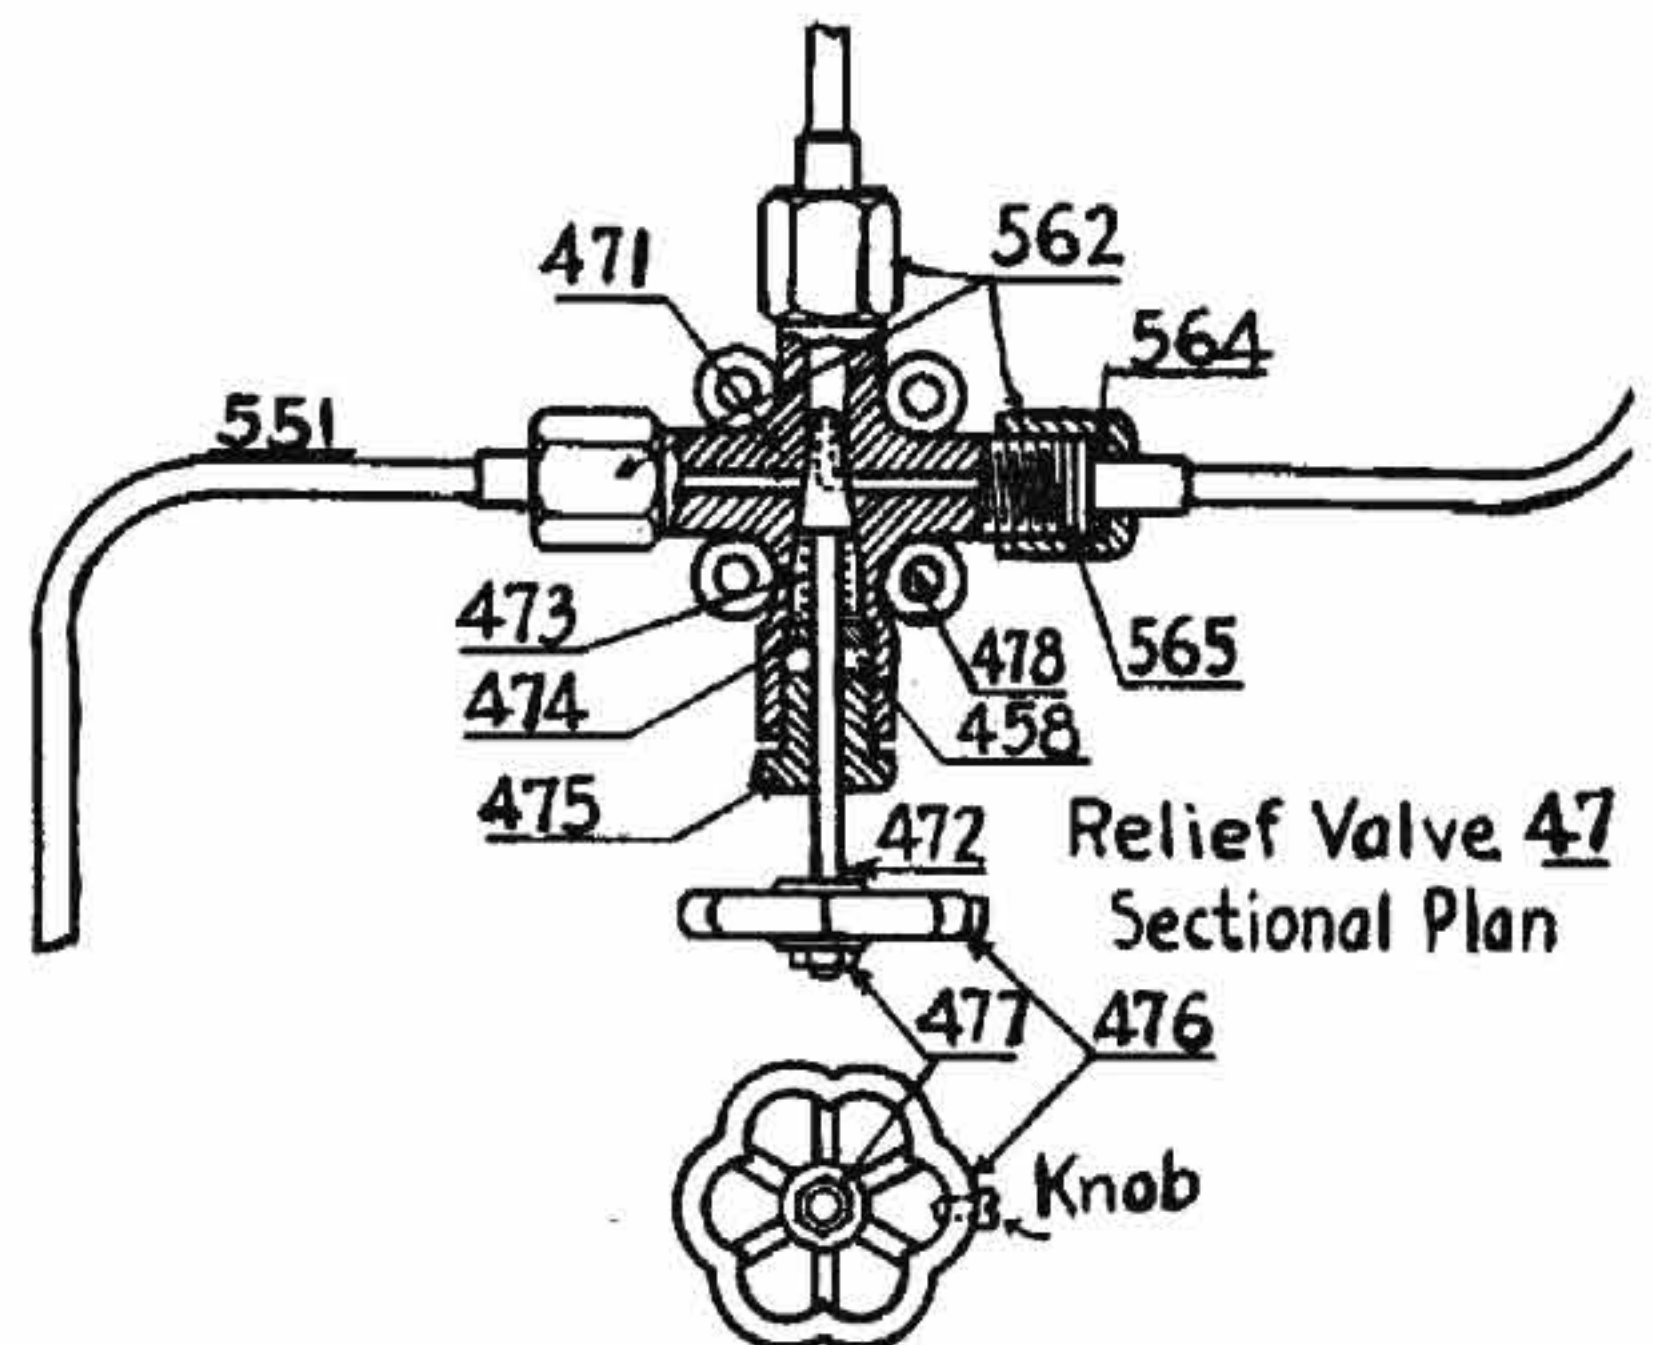

FIGURE 22-8.—Relief valve for type B lamp.
- (1) Be sure all the needle valves are closed.
- (2) Remove the oil filling plug in the oil tank.
- (3) Put about 2 gallons of kerosene for 35 mm. and 4 gallons for 55 mm. in the tank, using a funnel with strainer.
- (4) Replace the filling plug, using a lead washer.
- (5) Open the air pump and intertank needle valves.
- (6) Pump up about 40 pounds of air pressure.
- (7) Close the air pump needle valve.
- (8) Place the mantle holder and davit on pedestal.
- (9) Burn off the mantle from the top.
B. To start the lamp: (see fig. 22-8):
- (1) Turn the valve wheel on the three-way relief valve so that the knob on the wheel looks up; in this position the valve is closed.
- (2) Open the discharge needle valve on the tank.
- (3) Turn the knob on the relief valve toward the oil tank line long enough to half-fill the preheater (about 5 seconds).
- (4) Hang the drip cup assembly on the side of the lamp with the tube projecting through the small hole in the base.
- (5) Open the covers at the top of the lamp to allow free passage of flame.
- (6) Allow the alcohol to drip inside, and light.
- (7) Adjust the drip of alcohol just enough to keep a good flame inside of the lamp.
- (8) Allow the alcohol to burn about 12 minutes.